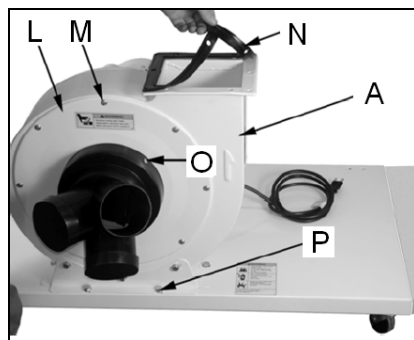

Fig 3
Attach the motor and fan assembly (A, Fig 3) to the base, using 4 hex head screws (P) and washers.